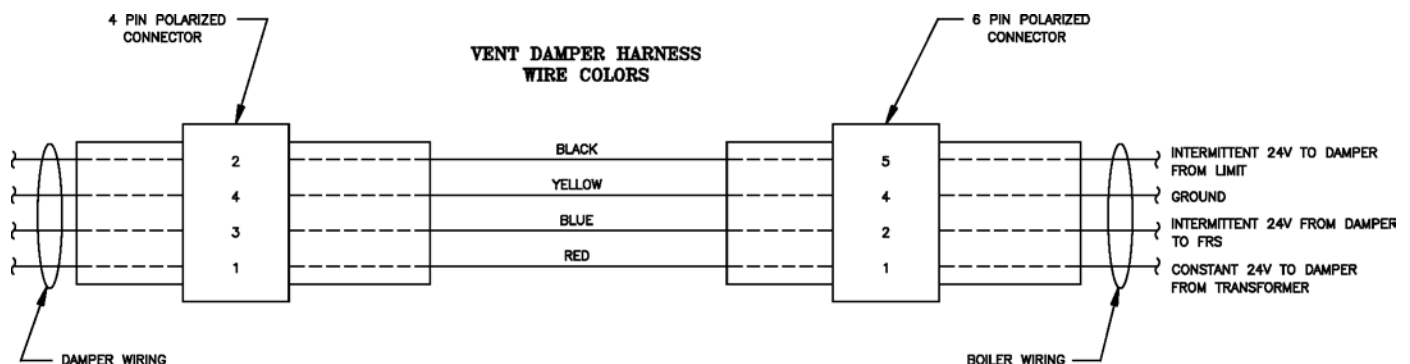

Figure 13: Vent Damper Schematic Wiring Diagram
G. Vent Damper Sequence of Operation. See Figure 13.